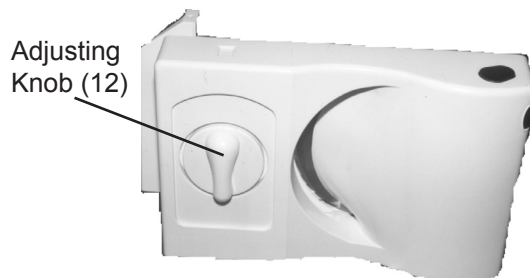

Figure 2-Adjusting Knob
1. Set the Adjust Knob (12) for the thickness of the slice that you desire. Turn the Adjust Knob (12) clockwise for thicker slices and counterclockwise to make the slices thinner-see Figure 2.
2. Slide the Food Tray out away from the Blade and towards the operator. Place the food to be sliced on the Food Tray. Position the Food Pusher (3) so that it can hold the food to be sliced as the Food Tray (2) is moved towards the Blade Assembly (15).